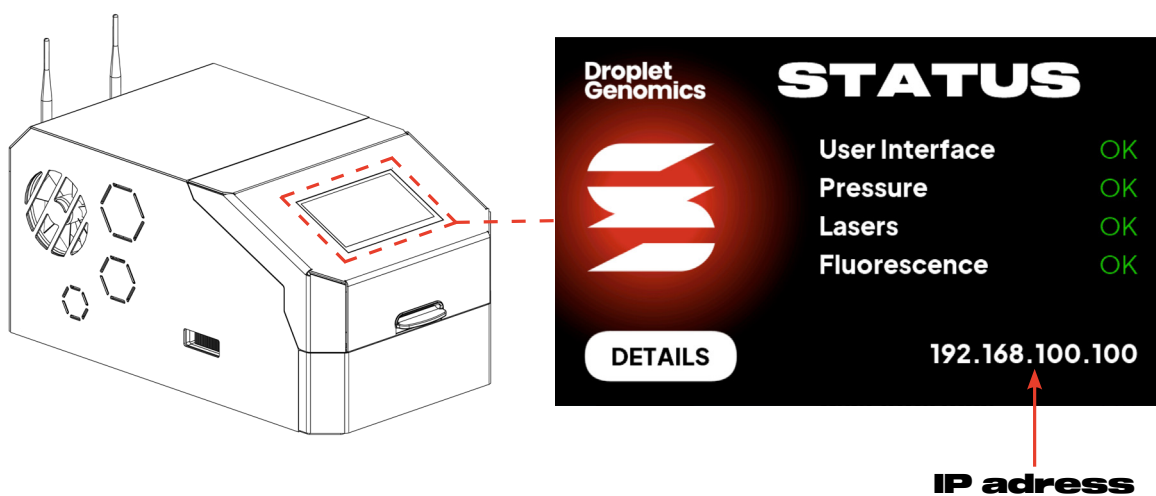

Figure 5: STYX LCD display
6. Find your device IP address on the LCD screen (Fig. 5).